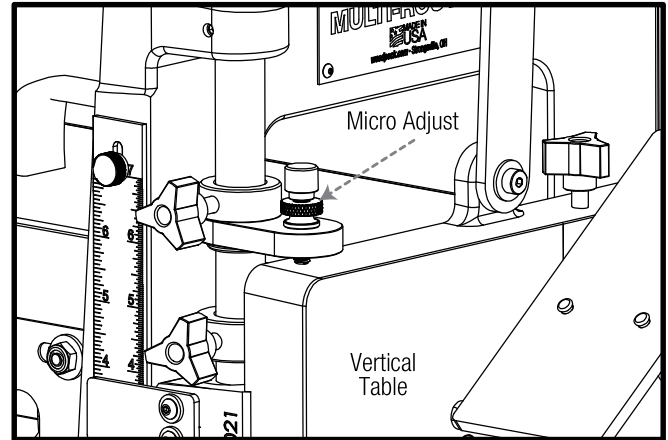

FIGURE 1. Roughly position Vertical Table by hand then move Micro Adjust down to engage the top of the table for fine adjustment.
1. Swing the Micro Adjust forward so that the Brass Thumb Screw is over top the Vertical Table. **FIGURE 1.**